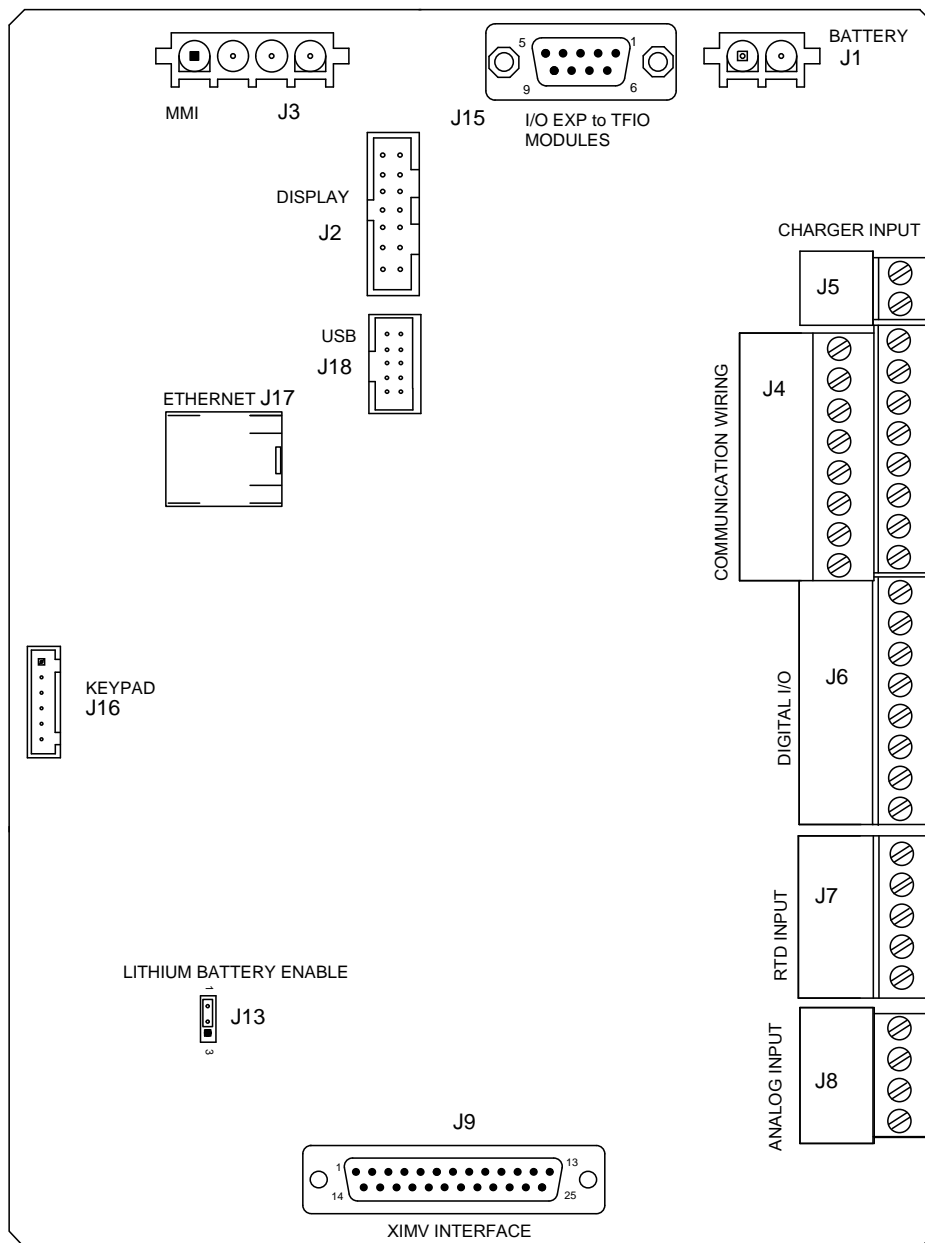

Figure 89: XFCG4 Removable Board Connections for Maintenance
7. Disconnect the battery charger from terminals EXT CHGR +/- J5 (Figure 89, *XFCG4 Removable Board Connections for Maintenance*, page 119).
9. Disconnect the communication connector(s) J3, J18 or J15 (Figure 89).
11. Disconnect the XFCG4 LCD port connector J2 (Figure 89).
12. Slide, to the right, green terminal strips J4, J6, J7, and J8 (Figure 89) from their associated flow computer panel Connector.
13. Remove the cable from J15 (Figure 89). If optional TFIO modules are installed.
14. Remove the cable from J16 (Figure 89). If the unit has the optional keypad.
9. Disconnect the LCD port connector J2 (Figure 89).
10. Disconnect the communication connector(s) J3, J15 or J18 (Figure 89).
11. Disconnect the XIMV Port connector J9 (Figure 89).
12. Slide, to the right, green terminal strips J4, J6, J7, and J8 (Figure 89) from their associated connector. Do not lift connectors upward. Pay particular attention to the J4 and J6 connectors and label if necessary to ensure correct installation when the replacement panel is in place.
13. Remove the cable from J15, if TFIO modules are installed (Figure 89).
14. Remove the cable from J16, if the flow computer has the installed optional keypad (Figure 89).
22. Reconnect the LCD port connector J2 (Figure 89).
23. Reconnect the battery cable to connector J1 (Figure 89).
24. Reconnect the battery charger to EXT CHGR +/- J5 (Figure 89).
5. Ensure the J13 (Figure 89) memory backup jumper covers the top two pins.
8. Disconnect the battery charger from terminals EXT CHGR +/- J5 (Figure 89).
9. Disconnect the Battery Cable from connector J1 (Figure 89).
14. Disconnect the XIMV cable J9 (Figure 89) from the panel.